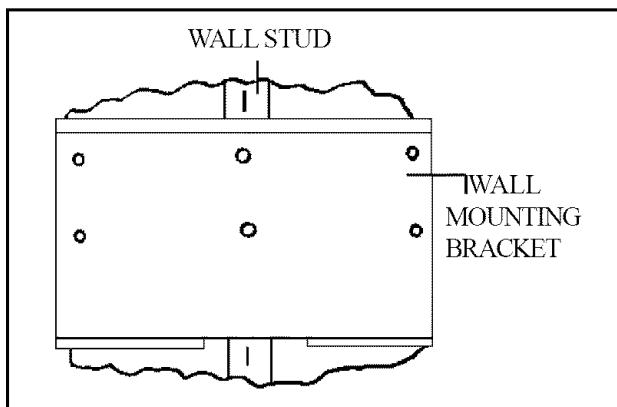

FIGURE 2
STEP 3. Attach wall mounting bracket to wall stud with top at desired height, using (2) screws provided. Make sure top of bracket is level. See Figure 2.